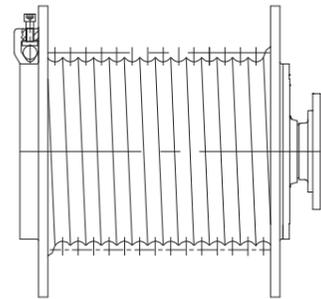
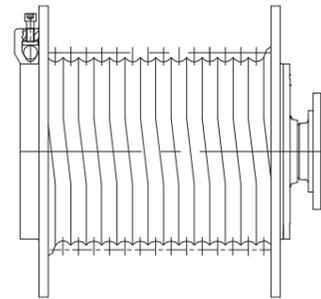

图1 Figure 1
图2 Figure 2
- 1)标准沟槽卷筒(图1)和特殊沟槽卷筒(图2)。
- 2)沟槽方向分左旋和右旋,默认为右旋(图1)。
- 1) Drum with normal grooves (figure 1) and with special grooves (figure 2).
- 2) Rope groove has right hand lead and left hand. The default lead is right hand (figure 1).